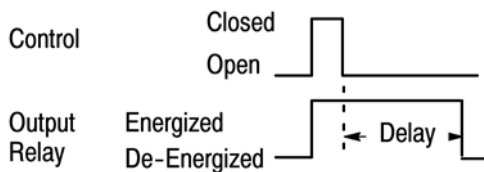

Figure 4
6.2. Type 2: Off-Delay (Figure 4)